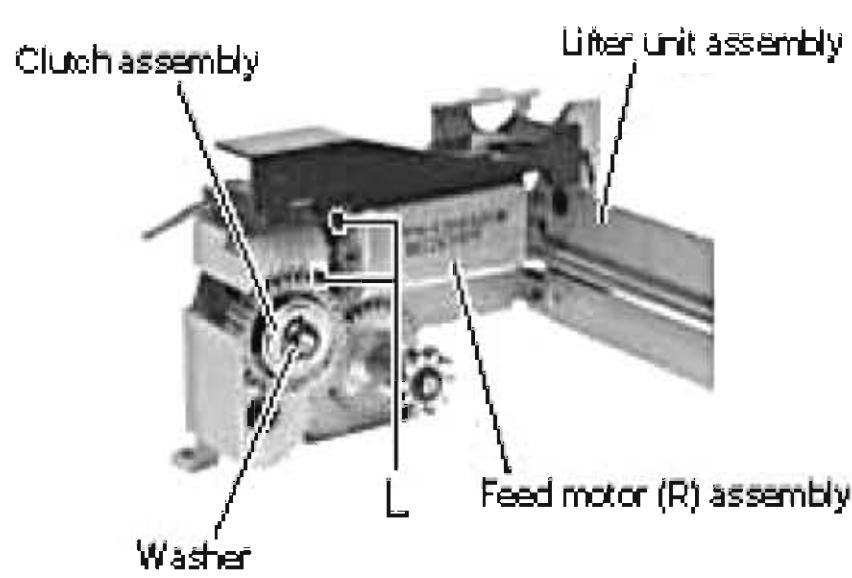

Fig.12
■ Removing the feed motor (R) (See Fig.12)
- Remove the two screws L attaching the feed motor (R).